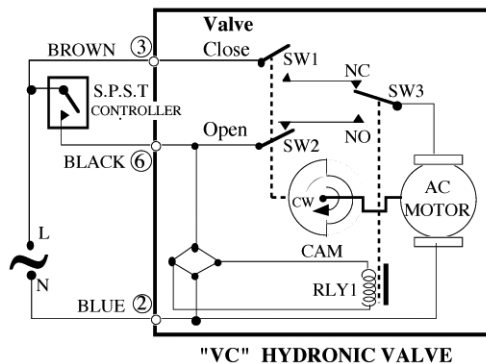

Fig. 9. Actuator wiring for SPST controller (Series 40 and 80).
**WHEN USED WITH SPST CONTROLLER (Figure 9):** On a call for heat, RLY1 is energized making the NO contacts in SW3, the valve opens. When the valve reaches the fully open position the cam operated SW1 closes and SW2 opens. When need for heat is satisfied, the thermostat contacts open, RLY1 is de-energized and the valve motor is driven closed through SW1 and the NC contacts of SW3. When the valve reaches the fully closed position, the cam operated SW2 closes and SW1 opens anticipating the next call for heat cycle.